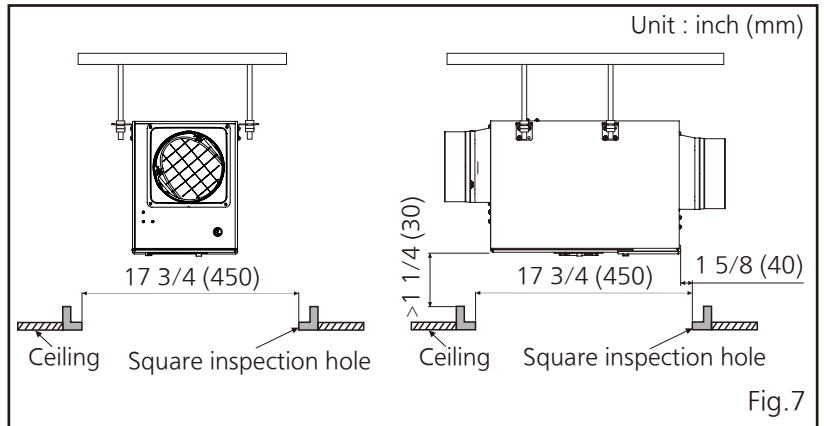

Fig.7
5. Set an square inspection hole of 450 mm or more under the maintenance board. (Fig.7)